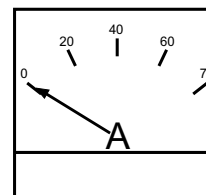

Figure 44. Ammeter (No Load)
12. The ammeter (Figure 44) will indicate zero amps with no load applied. When a load is applied, this meter will indicate the amount of current that the load is drawing from the generator's alternator.